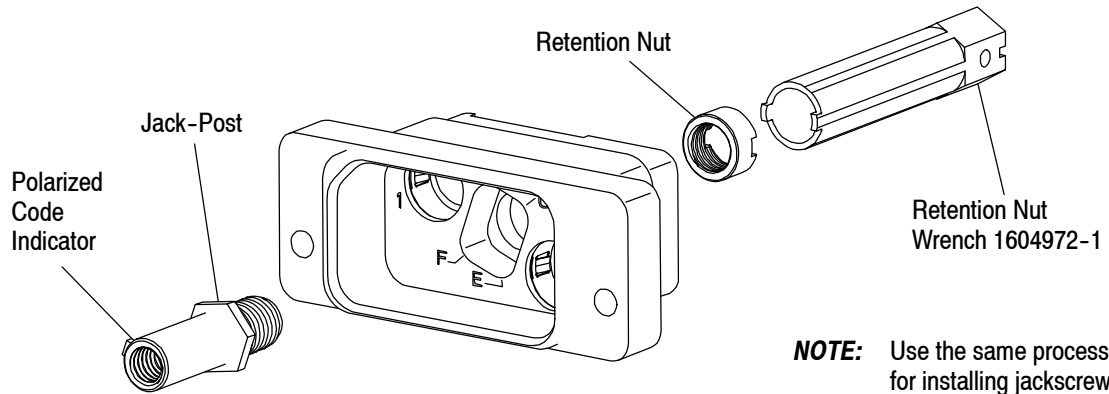

Figure 9
1. Place the jack-post (or jack-screw) inside the connector shell cavity and align the polarization code indicator and hex flats with the desired letter on the shell. Polarization codes A through F are available, however, only codes B, C, E, and F are shown on the shell. See Figure 9.